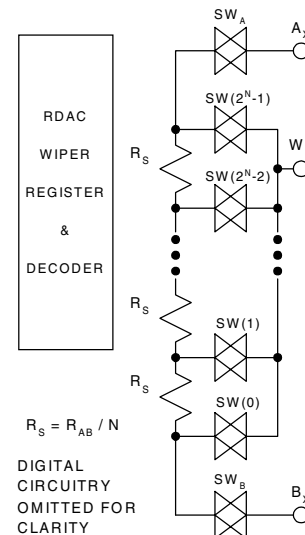

Figure 3. Equivalent RDAC structure
The actual structure of the RDAC is designed to emulate the performance of a mechanical potentiometer. The RDAC contains a string of connected resistor segments, with an array of analog switches that act as the wiper connection to several points along the resistor array. The number of points is the resolution of the device. For example, the AD5232 has 256 connection points allowing it to provide better than 0.5% set-ability resolution. Figure 3 provides an equivalent diagram of the connections between the three terminals that make up one channel of the RDAC. The SWA and SWB will always be ON while one of the switches SW(0) to SW(2N-1) will be ON one at a time depending upon the resistance step decoded from the Data Bits. Note there are two 50 ohm wiper resistances, Rw. The resistance contributed by Rw must be accounted for in the output resistance. At terminals A-to-wiper, Rw is the sum of the resistances of SWA and SWx. Similarly, Rw is the sum of the resistances SWB and SWx at terminals B-to-Wiper.